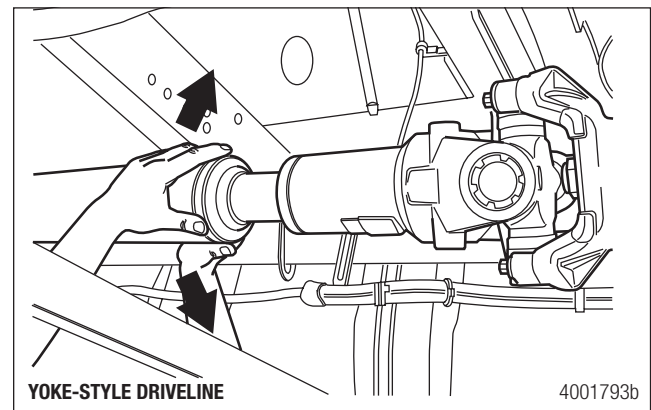
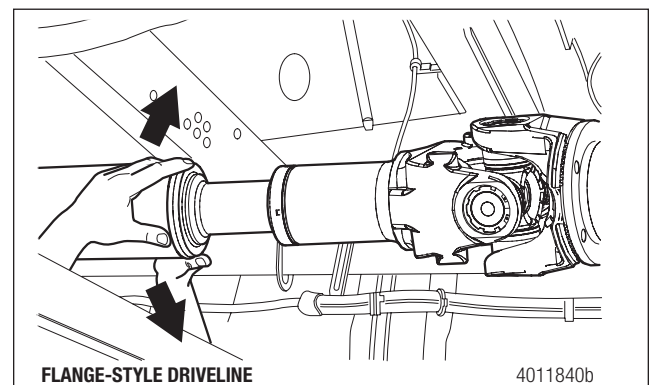

Figure 13.7
Figure 13.8
4. With hands near the center of the driveline, move the slip yoke UP-AND-DOWN. Check the dial indicator measurement. Movement between the spline plug and slip yoke must not exceed 0.017-inch (0.432 mm). Figure 13.7 and Figure 13.8.